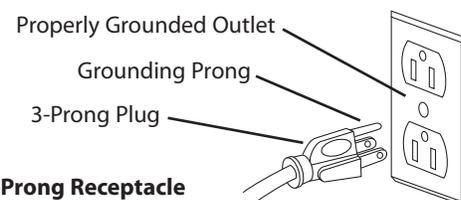

**Figure 2 – Base Dimension and Mounting Holes**
Refer to Figure 2.
- Figure 2 shows the base dimensions and mounting holes. See Specifications for required space to allow belt assembly in horizontal position.